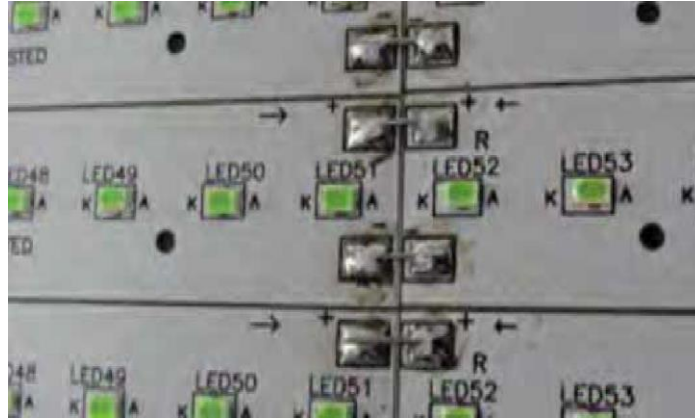

Fig. 2.17: Soldered two light Engines with jumper wire
Step 1. For a length of 4 feet, two light engines with jumper wire have to be soldered as shown in Figure 2.17.